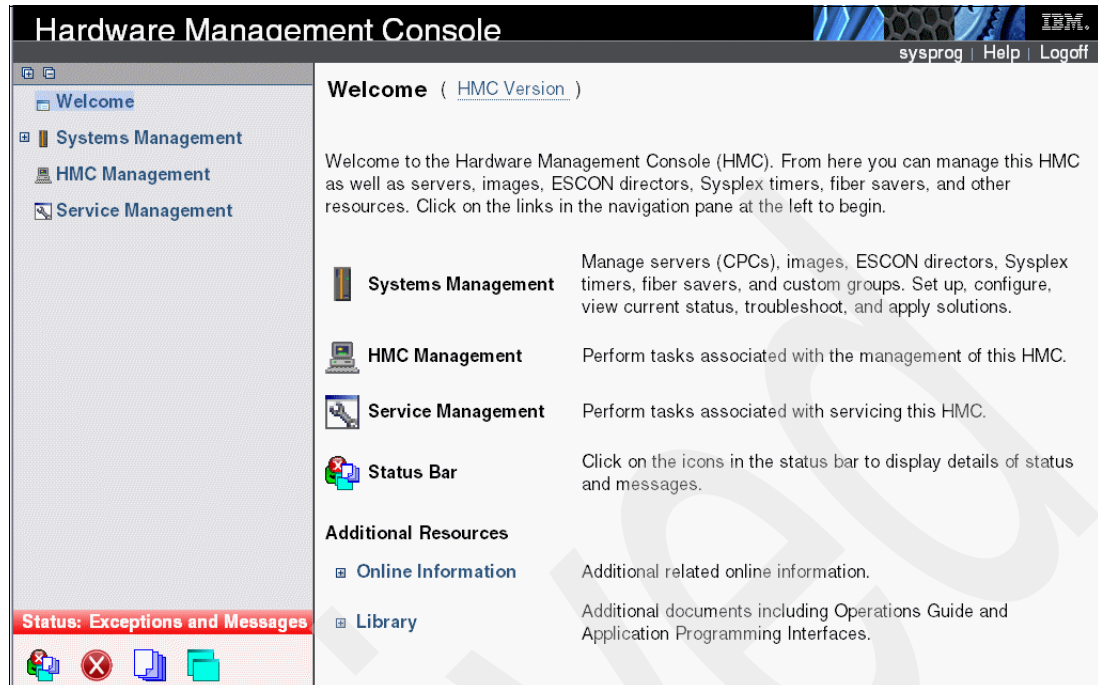

Figure 8-1 Welcome page after logging in HMC
1. Sign on to the HMC using **SYSPROG** or an identification with equivalent rights. The initial HMC Workplace™ after logging in is displayed, as shown in Figure 8-1 on page 340. All images captured for this book are in tree mode.
1. Access the SE Welcome page. Compared with the HMC window (Figure 8-1 on page 340), notice the difference in the panel's title and also the presence of a logo in the background of the SE panel.